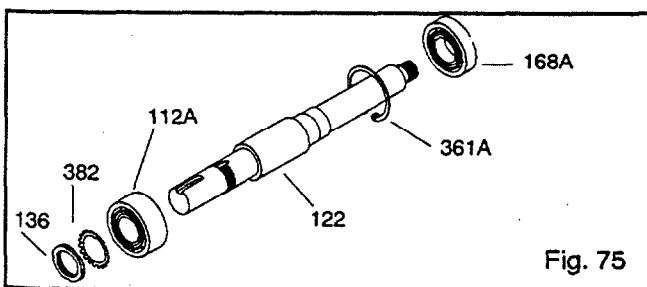

Fig. 75
3. Install outboard bearing (112A) on shaft (122) (Fig. 75).